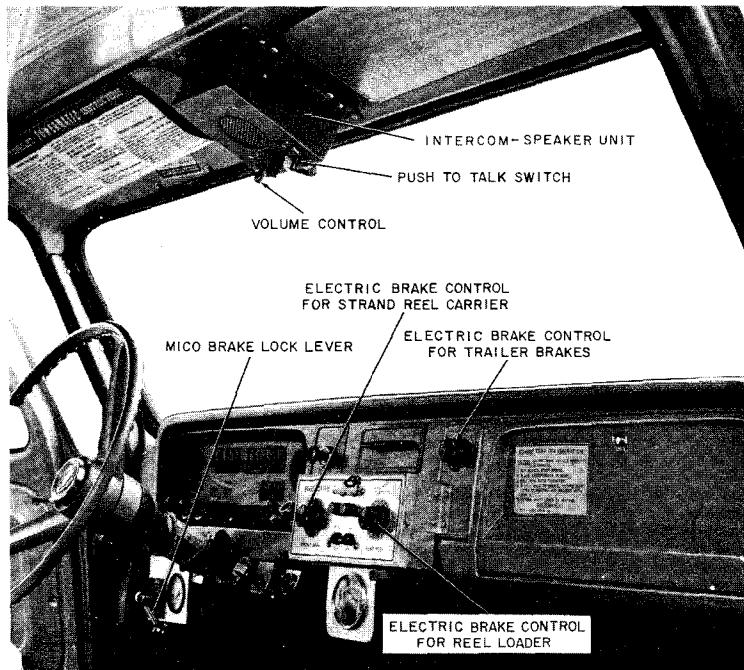

Fig. 4—Controls in Truck Cab
2.07 To activate the communication system between the lift operator and truck driver, rotate the “on-off” volume control button located on the cab speaker unit. To transmit from the cab, depress the “push-to-talk” switch. For operator safety and convenience, the unit located on the end of the boom near the platform is a hands-free transmit-receive speaker unit. The truck cab speaker unit is shown in Fig. 4.